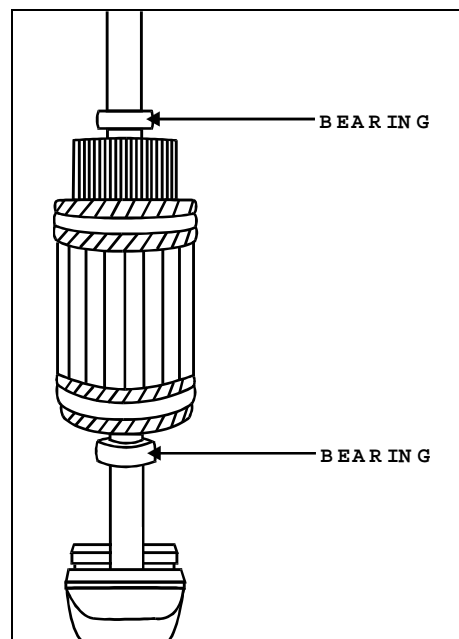

FIGURE 4: MOTOR SHAFT
14. Remove the two ball bearings (Fig. 4).